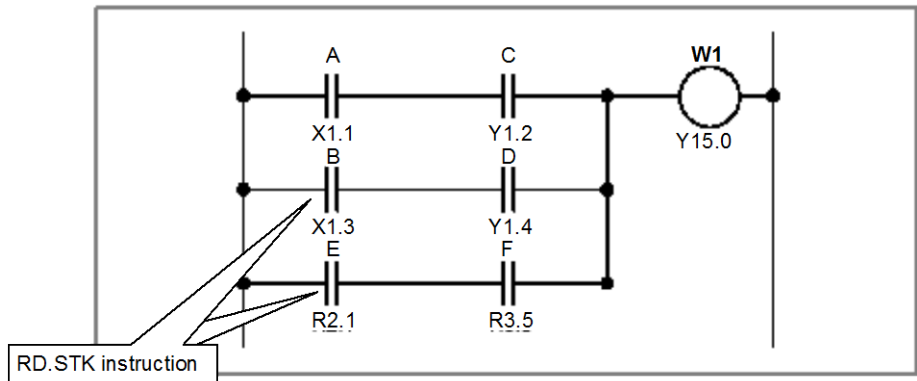

Fig. 4.1.10
- (1) The RD.STK instruction stacks the interim result of a logical operation. Use this instruction when the signal you specify is contact A (—|—). After shifting the register content one bit to the left, the instruction sets the status of the signal at the specified address in the ST0 bit.
- (2) For examples of how the RD.STK instruction is used, see Fig. 4.1.10 and Table 4.1.10.